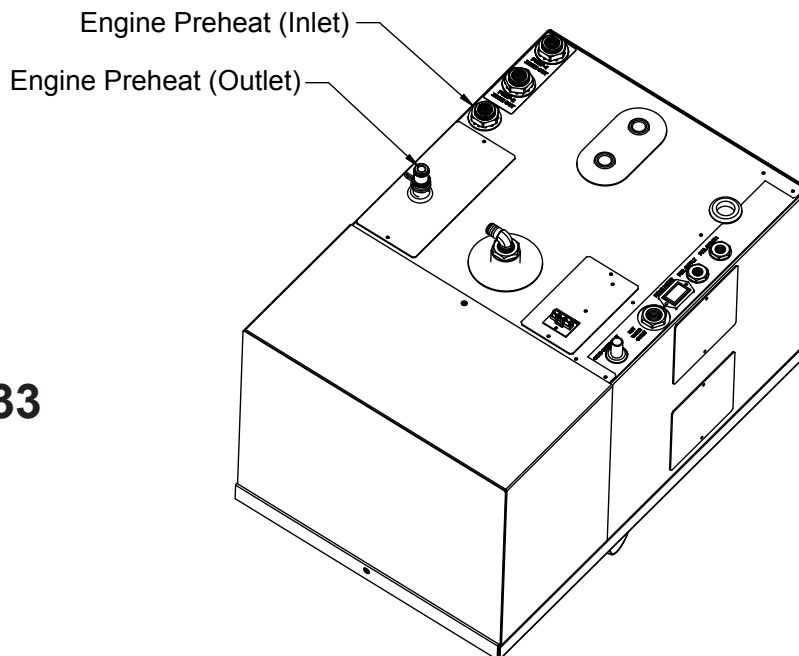

Figure 33
7. Attach and clamp the Engine's Supply Plumbing Line to the Aqua-Hot's "Inlet" connection; reference Figure 33.
8. Attach and clamp the Engine's Return Plumbing Line to the Aqua-Hot's "Outlet" connection; reference Figure 33.